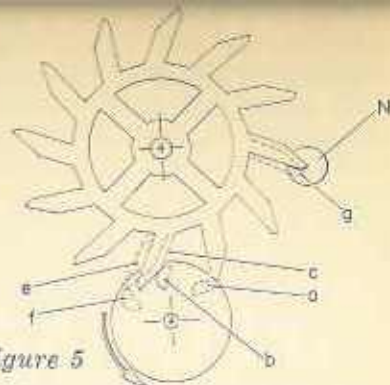

Figure 5
When the balance makes its return voyage, as shown in Figure 5, the jewel (a) will pass by the nearest tooth, but as it approaches position b, it will contact a tooth (c). Since the backs of these teeth are especially slanted the curved back of the jewel will move the tooth only as far as position e. The jewel pin (at position f) can now drop off and continue. The tooth at N has only been pushed backward a short distance (to position g), not out of range of the magnetic pin (N) which again attracts and holds it. (This impulse jewel is not the same as the contact jewel cam. There are three jewels on the balance staff, each serving a distinctly different purpose. I will explain in detail later.)